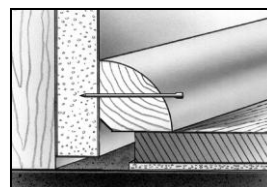

Fig. 25
1. Nail the molding to the wall, not the floor **(Fig. 25)**.